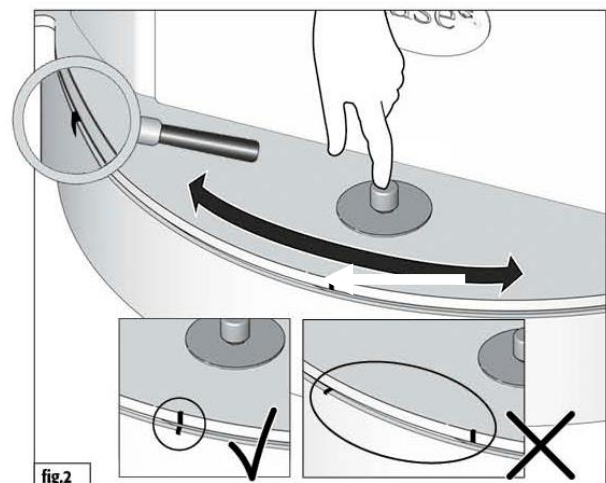

Figure 3 - Zero Index Marks
2. Ensure the stove is in its 0-degree orientation (line up the index marks) and then position the stove to center the door on the hearth. (see fig. 3)